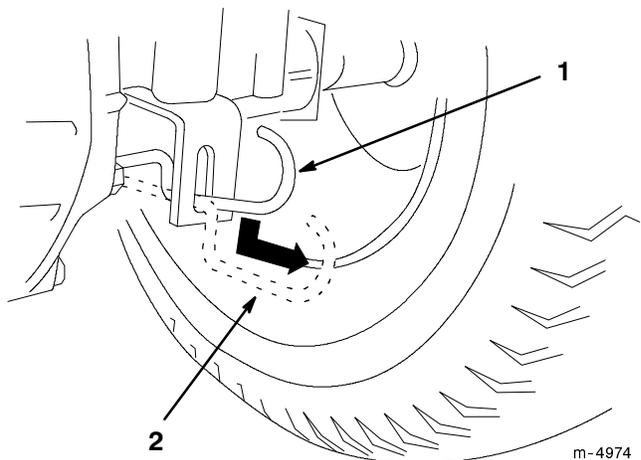

Figure 11
2. Pull the drive control out to the “PUSH” position. This disengages the drive system and allows the wheels to turn freely (Fig. 11).
1. Push the drive control in to the “OPERATE” position. This engages the drive system (Fig. 11).